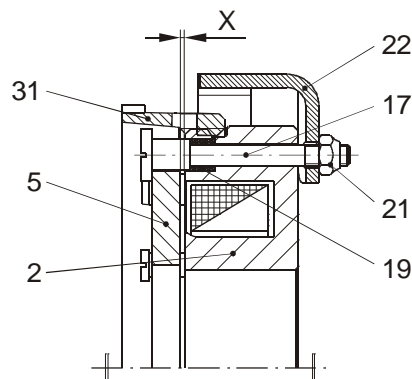

Fig. 2
For the adjustment dimension X (air gap between armature disk (5) and coil carrier (2)), see Table 1 and Fig. 2. Measurement of the adjustment dimension takes place via the three inspection holes on the circumference of the distance ring (31).